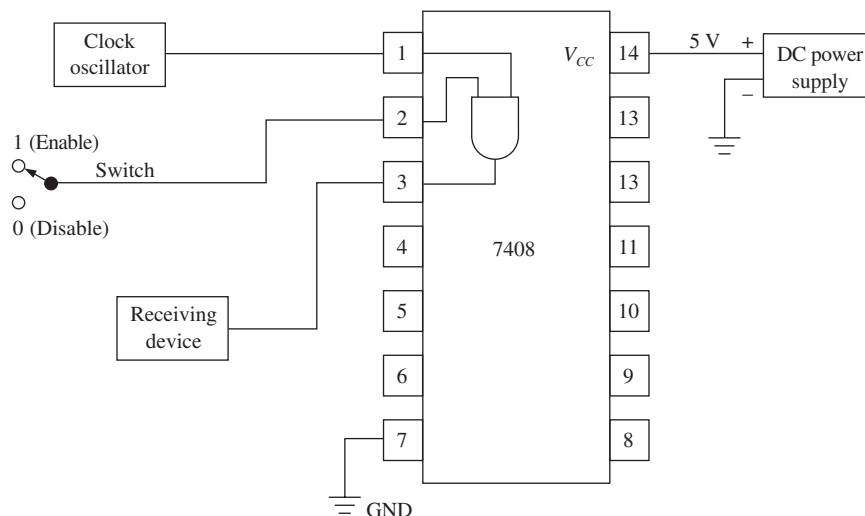

Figure P3–22
- C T** 3–22. The clock enable circuit shown in Figure P3–22 is not working. The enable switch is up in the enable position. A logic probe is placed on the following pins and gets the following results. Find the cause of the problem.